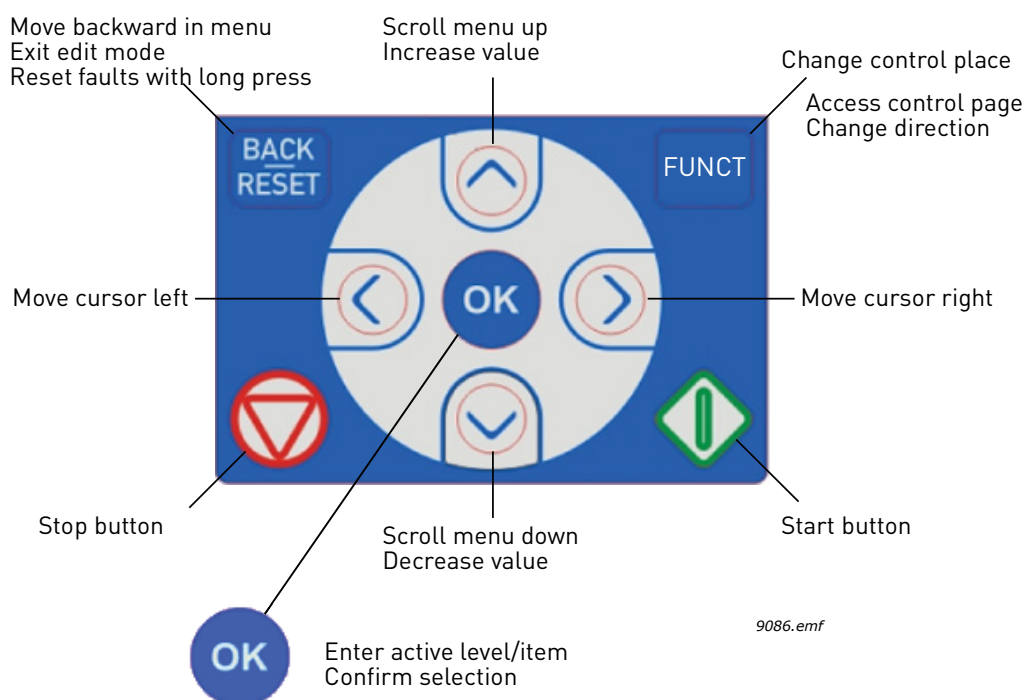

Figure 1. Keypad buttons
**The Location field indicates your current location. The Status field gives information about the present status of the drive.** See Figure 1.